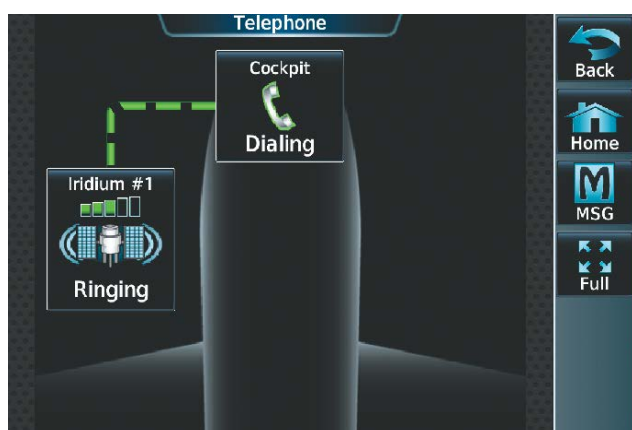
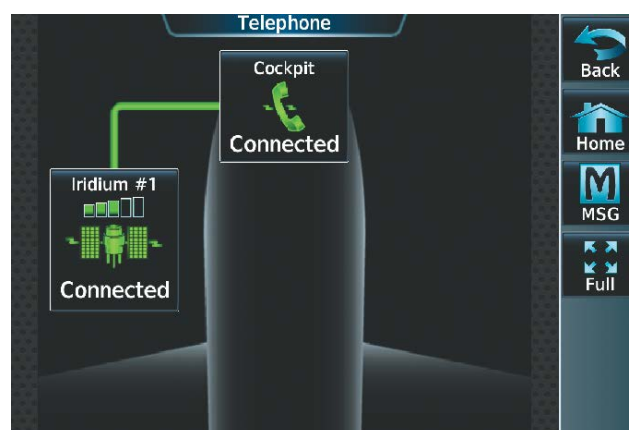

Figure 8-59 Establishing a Connection
Figure 8-60 Telephone Connected
- 5) Touch **Enter**. The system initiates the call (Figure 8-59). The system indicates a completed connection when the telephone is answered (Figure 8-60).